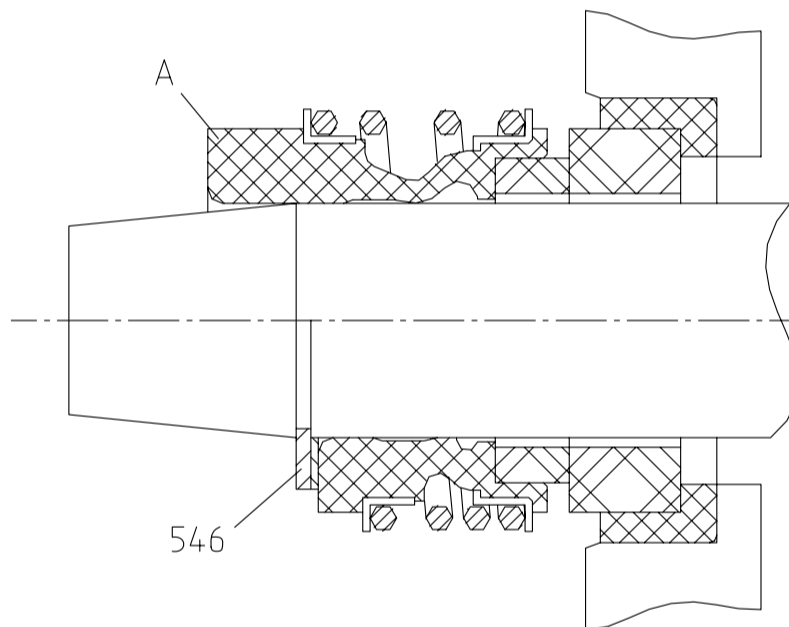

Fig. 14
c) Rubber-bellows seal, external spring - type "G" (Fig. 14)